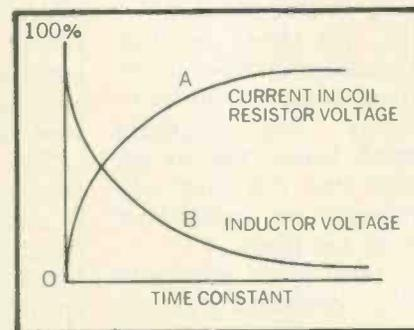

Fig. 6—Typical Universal Time Constant Chart.
Note that with the application of the applied voltage (B), the actual rate of current flow (C) through the coil is typical of an L-R circuit. The initial rate of current flow is high during the first portion of the input voltage and then increases exponentially thereafter. This is the direct result of the voltage drop across the resistance opposing the applied voltage and leaving less voltage applied to the coil to maintain a linear current rise through the coil. (This is an expression of the typical Universal Time Constant Chart for an L-R circuit where the exponential increase in current through the coil also is representative of the voltage drop across the resistor—refer to Fig. 6.)